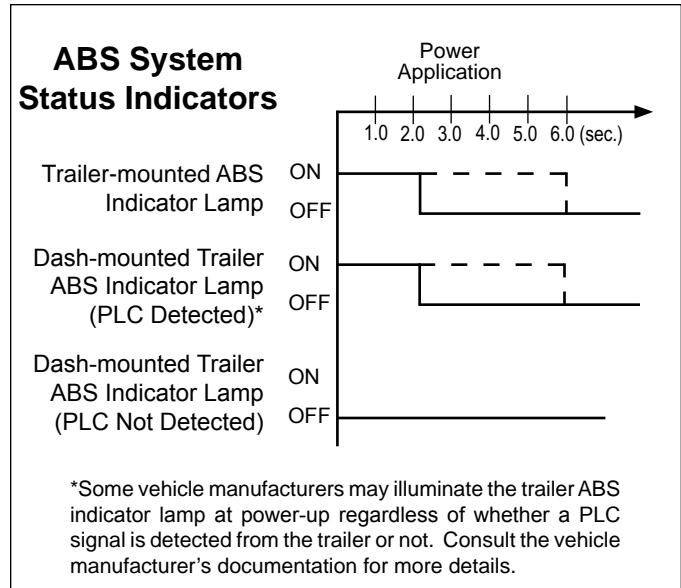

FIGURE 9 - TRAILER ABS LAMP POWER-UP SEQUENCE
At power-up, with no detected Diagnostic Trouble Codes (DTCs), the trailer ABS indicator lamp will illuminate for approximately two (2) to six (6) seconds as a bulb check and then turn off. See Figure 9.